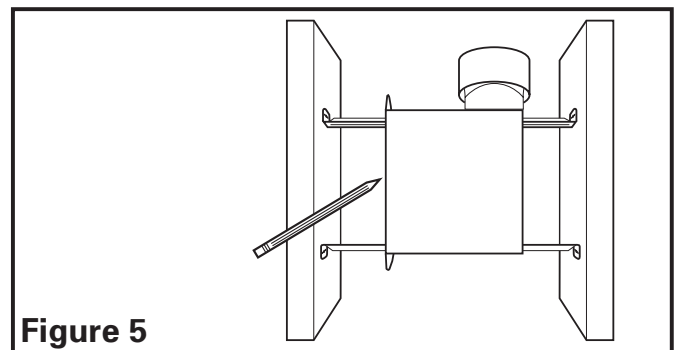
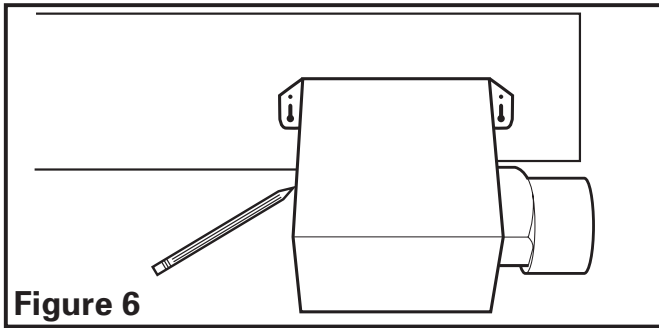

**Figure 4**
Figure 6
2. **Mounting Tab Installation:** Using the gauge on the fan's housing, line up housing so that it will be flush with the finished ceiling. Position the fan so that the tabs rest flat against the joist and secure with four nails (not provided) to ensure proper installation (**Figure 4**).
1. **Mounting Tab Installation:** Position housing against the joist and trace an outline of the housing onto the ceiling material (**Figure 6**). Set housing aside and cut opening, being careful not to cut or damage any electrical or other hidden utilities. Place housing next to the joist and insure that it is flush with the finished ceiling. Secure with four nails (not provided) to ensure proper installation (**Figure 4**).